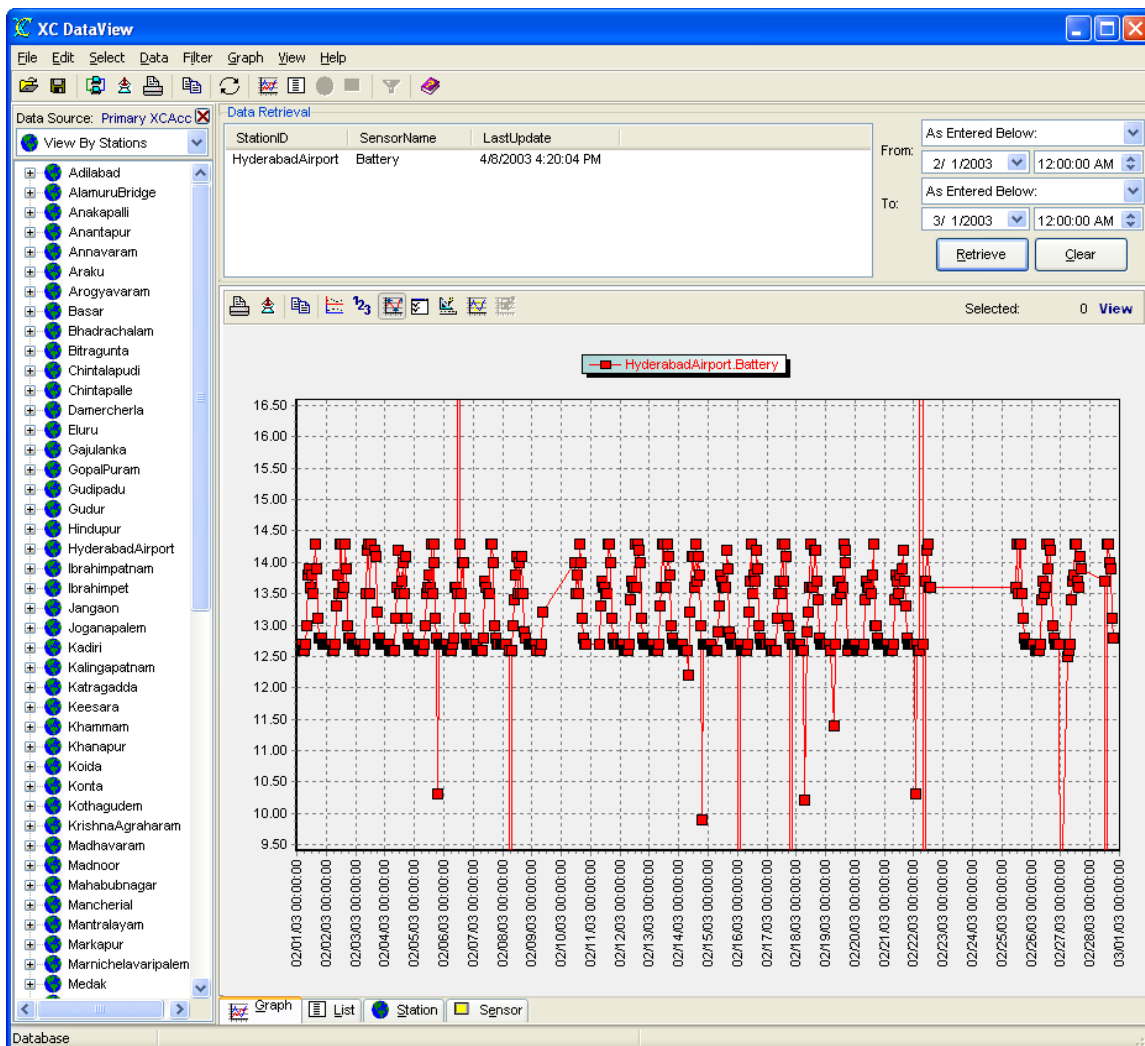

Figure 1. XC DataView main window
- Figure 1. XC DataView main window3